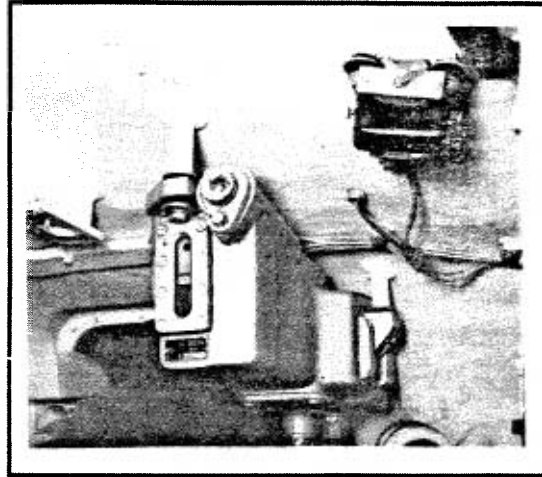
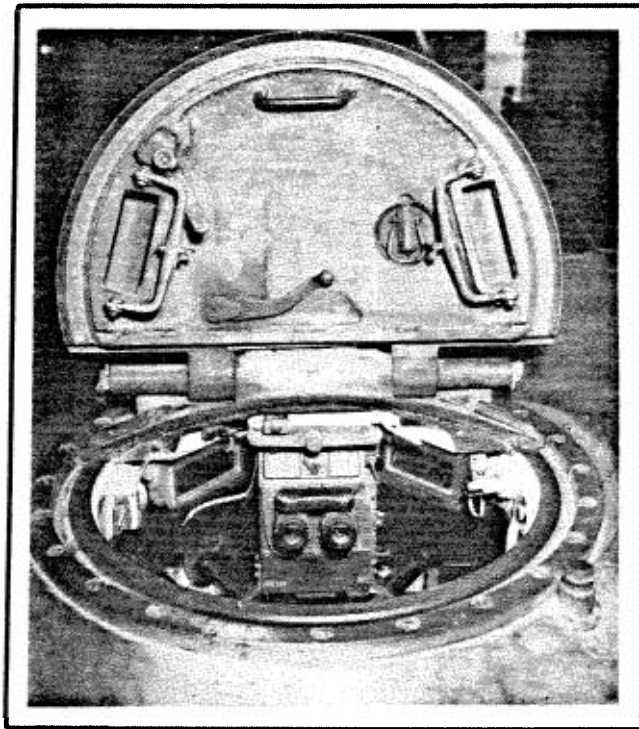

FIG. 3-80. REPLENISHER
FIG. 3-81. TKN-3 PERISCOPE IN CUPOLA
(1) Check replenisher fluid level in the check window. (Fig. 3-80). It should be visible in the window.
(2) Check horizontal and vertical performance of stabilizer system (See Section 3-11 for instructions on placing the stabilizer system in operation).
(3) Check operation of TC's TKN-3 override in both stabilized and unstabilized modes (See Section 3-11 for instructions on operation of TC's override) (Fig. 3-81).
(4) Check operation of main gun hydraulic braking. This is done by placing gun in power elevation. When the manual elevation controls are disengaged the gun should remain in place. If there is a system malfunction, the gun will depress rapidly (See Section 3-11 for instructions on placing elevation system in power operation).